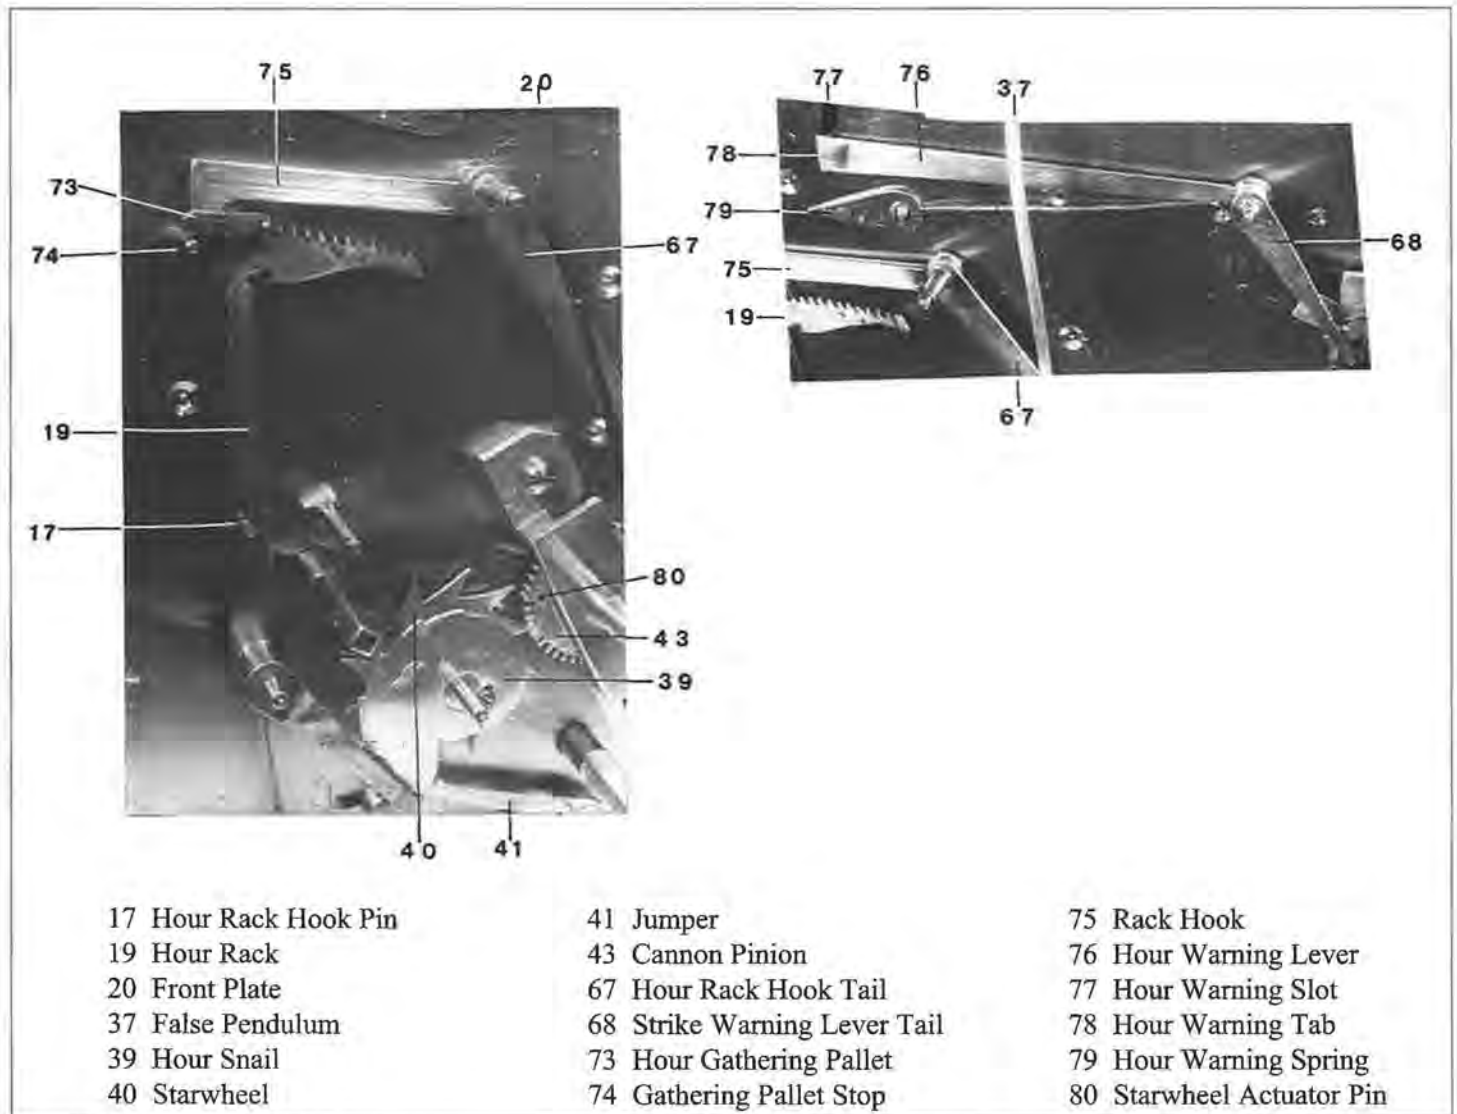

Figure 33.3. Strike Control Components
18. Install hour strike controls (Figure 33.3).
18.3. Rotate hour snail (39) to the twelve o'clock position (Figure 33.3).
19. Strike timing checks (Figure 33.3).
21.6. Re-check strike train timing (Figure 33.3).